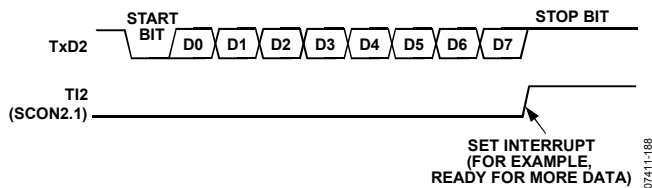

Figure 88. 8-Bit Variable Baud Rate
Transmission is initiated by a write to SBUF2. Next, a stop bit (1) is loaded into the 9th bit position of the transmit shift register. The data is output bit-by-bit until the stop bit appears on TxD2 and the transmit interrupt flag (TI2) is automatically set as shown in Figure 88.